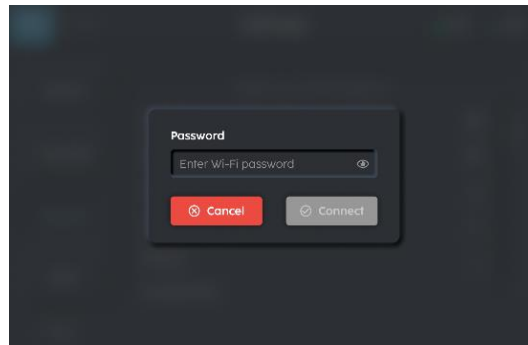

FIGURE 6-5
1. Enter the network password (Fig 6-5).